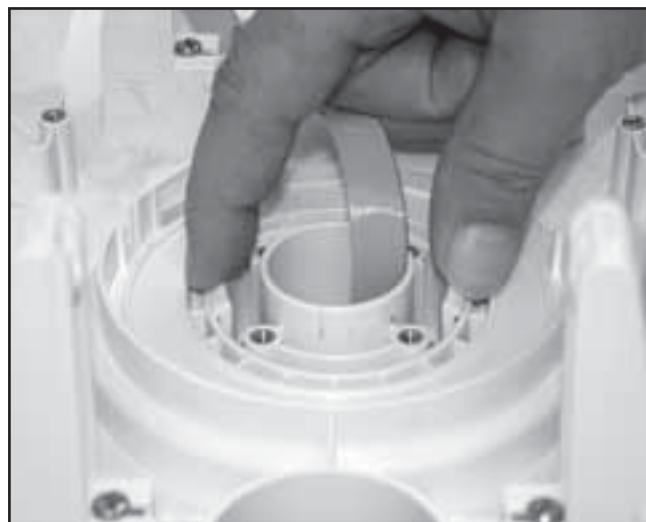

FIGURE 6.17
5. Squeeze the two Touch Screen Assembly Tabs and push the Touch Screen Assembly out of the Top Cover. See Figure 6.17.